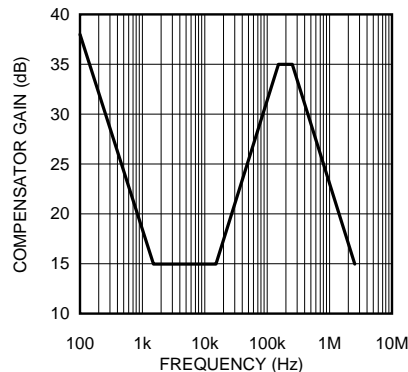

Figure 20. Compensator Gain
The complete transfer function for the regulator loop is found by combining the compensation and power stage transfer functions. The LM22680 has internal type III loop compensation, as detailed in Figure 20. This is the approximate "straight line" function from the FB pin to the input of the PWM modulator. The power stage transfer function consists of a D.C. gain and a second order pole created by the inductor and output capacitor(s). Due to the input voltage feedforward employed in the LM22680, the power stage D.C. gain is fixed at 20dB. The second order pole is characterized by its resonant frequency and its quality factor (Q). For a first pass design, the product of inductance and output capacitance should conform to the following equation: